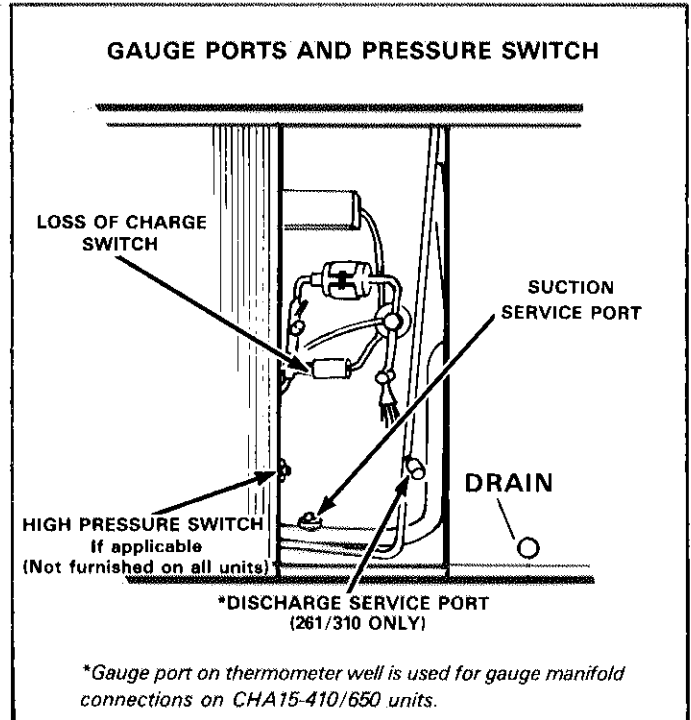

FIGURE 3
- 1 - Attach gauge manifold high pressure line to gauge port on compressor discharge line (261/310 units only). Refer to figure 3. *NOTE - High pressure line is attached to gauge port on thermometer well on CHA15-410/650 units.*
- 1 - Connect gauge manifold as shown in figure 3. Connect an upright R-22 drum to center port of gauge manifold.
Loss of charge switch is located in liquid line as shown in figure 3. Loss of charge switch opens at 25 ± 5 psig and automatically resets at 55 ± 5 psig.
Some models may be equipped with a high pressure switch as shown in figure 3. High pressure switch opens at 410 ± 10 psig and is manually reset.